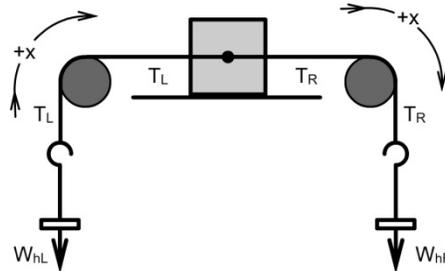

Figure 12 – Forces Acting on a Cart and Two Hangers along x-axis
It's a simple extension to add a mass on the left-hand side. Let's look at it briefly. In Figure 12 we've added a second mass hanger. As a result we've had to add more subscripts to distinguish the hangers and tensions on the left and right. Note also that the positive direction is “up” on the left, “right” on the track and “down” on the right.
1. Start with system shown in Figure 12. Use $m_L = 50 \text{ g}$, $m_R = 70 \text{ g}$.